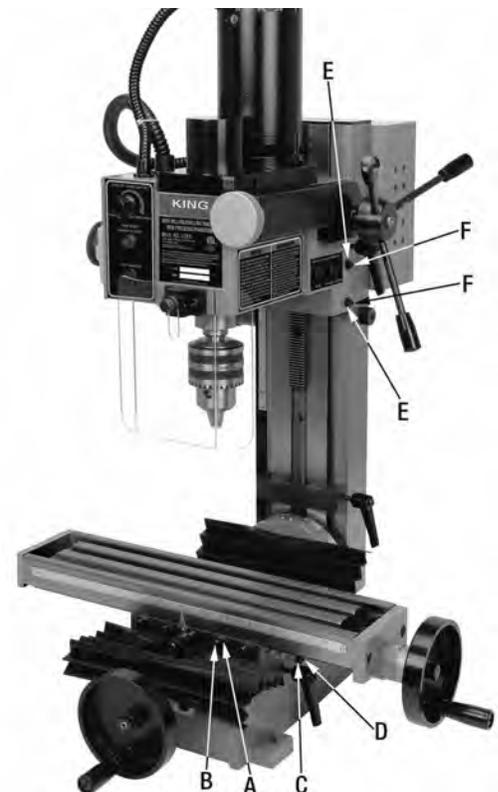

FIGURE 18
1. To adjust the X-axis gib, loosen 4 hex. nuts (A) Fig.18. Move the table in the X-axis and tighten all 4 set screws (B). When the set screws are correctly adjusted you will feel resistance. Once adjusted retighten hex. nuts (A).
2. To adjust the Y-axis gib, loosen 2 hex. nuts (C) Fig. 18. Move the table in the Y-axis and tighten all 2 set screws (D). When the set screws are correctly adjusted you will feel resistance. Once adjusted retighten hex. nuts (C).
3. To adjust the head gib, loosen 2 hex. nuts (E) Fig. 18. Raise and lower the head and tighten all 2 set screws (F). When the set screws are correctly adjusted you will feel resistance. Once adjusted retighten hex. nuts (E).